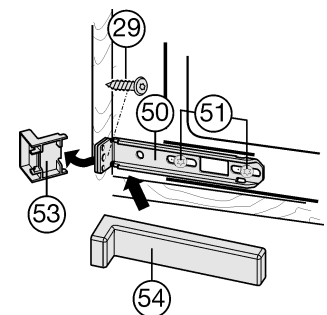

Fig. 17
- ▶ Loosen the screws *Fig. 17 (51)* a little.
- ▶ Tightly screw the bottom mounting bracket *Fig. 17 (50)* to the unit wall using Spax screw *Fig. 17 (29)* $\varnothing 4 \times 19$.
- ▶ Break off the projecting end of the cover *Fig. 17 (53)*. It is no longer required.
- ▶ Tighten the screws *Fig. 17 (51)*.
- ▶ Put the cover *Fig. 17 (54)* on the bottom mounting bracket *Fig. 17 (50)*.